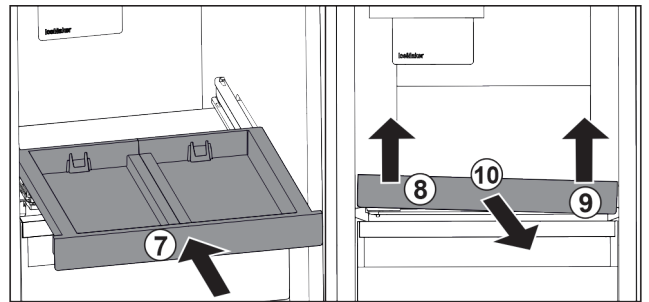

Fig. 27
- Slide in the pull-out board. Fig. 27 (7)
- Lift the pull-out board on the front left. Fig. 27 (8)
- Lift the pull-out board on the front right. Fig. 27 (9)
- Take out the pull-out board to the front. Fig. 27 (10)